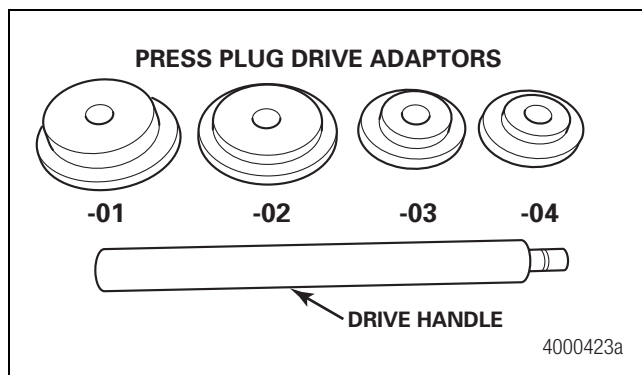

Figure 2.15
- Choose the correct press plug drive adaptor by matching the axle manufacturer and model to the press plug drive adaptors. Refer to Section 8. Figure 2.15. Current production press plug drive adaptors are identified with a number stamped on the part. Some early adaptors were not marked.